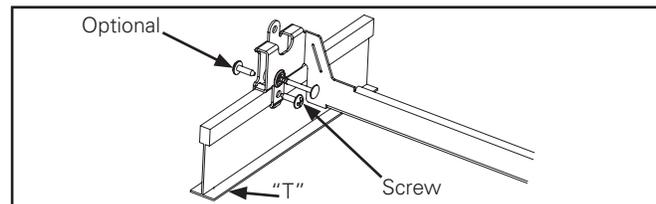

Figure 7.
1. Extend bar hangers between the T-bars and slide the slots in the mounting tabs over the T-bars. (Figure 7.)